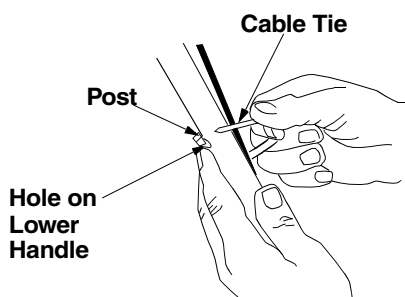

Figure 6
- Insert post on cable ties into holes provided on the lower handle. Pull the cable tie tight and trim the excess. See Figure 6 .